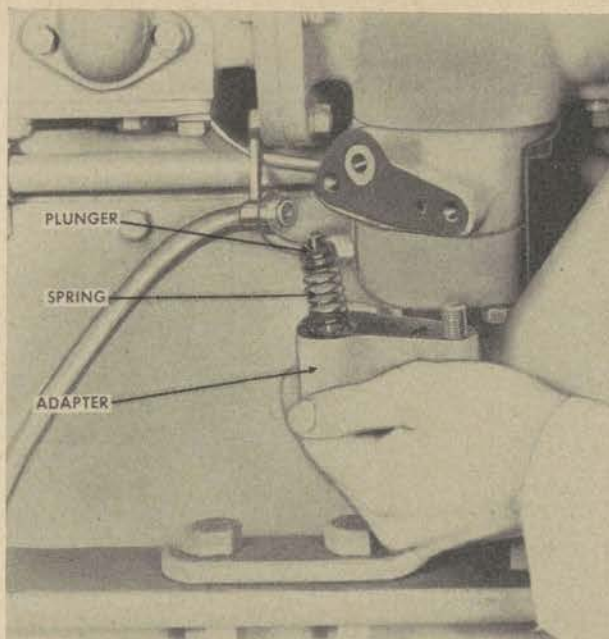

Figure 166. Fuel transfer pump adapter.
(6) *Fuel transfer pump. (a) Description.* The fuel transfer pump, of a self-priming type, is located under the rear of the accessory shaft. The adapter (fig. 166), mounted on the side of the transfer pump, contains a plunger and spring which regulate the fuel pressure to the fuel filters and fuel injection pumps. The plunger opens when the fuel injection pumps do not use all the fuel delivered, or when the fuel filters become clogged. The spring loaded plunger allows excess fuel to be bypassed within the pump and adapter, thus preventing excessive pressure that might cause damage to the fuel filter housing or fuel filter pressure gage mechanism.